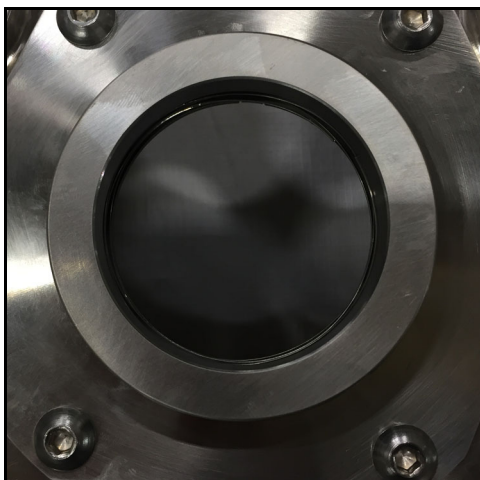

Figure 62 - Seal housing installed
11. Figure 62 shows the seal housing installed.